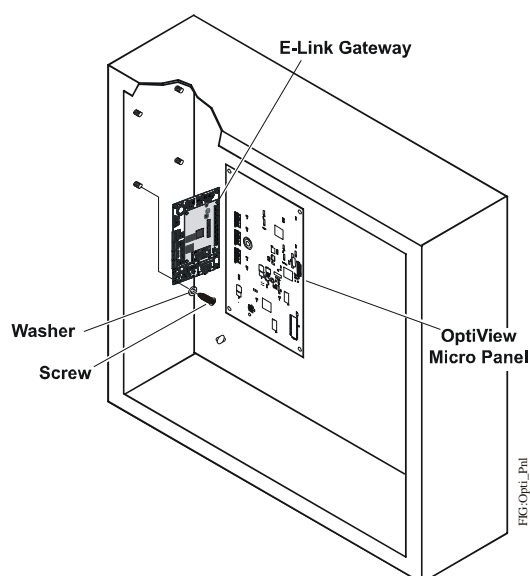
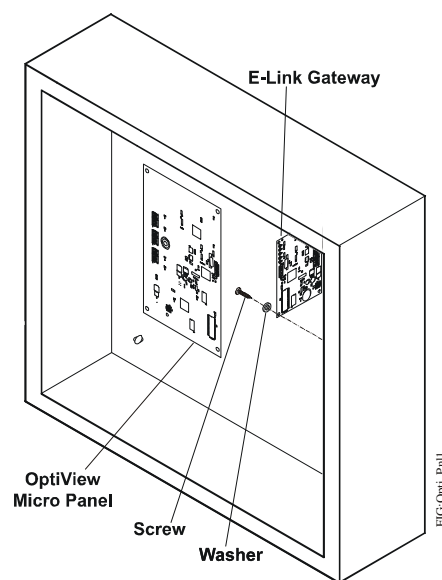

Figure 1: OptiView Micro Panel Connected to E-Link Gateway
Figure 2: OptiView Micro Panel for YMC² Connected to E-Link Gateway
1. Attach the E-Link Gateway board to the studs provided inside the chiller enclosure (Figure 1 or Figure 2), using the four screws and washers provided in the OptiView/Latitude installation kit.